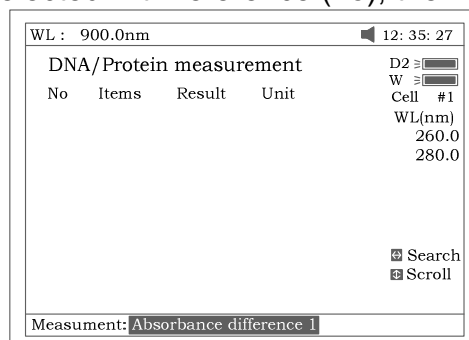
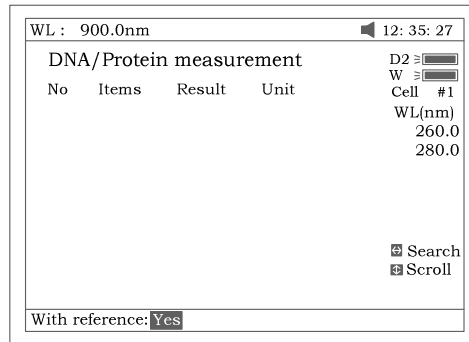

Fig 62
Fig 63
2. Press **[F2]** to select test mode. "Absorbance difference 1" is for testing at the wavelength 260nm, 280nm and 320nm (optional), and the "Absorbance difference 2" is for testing at the wavelength 260nm, 280nm and 320nm (optional, Fig 62). Then select with/without reference. If selected with reference (no), the A ref. will be "0" (Fig 63).